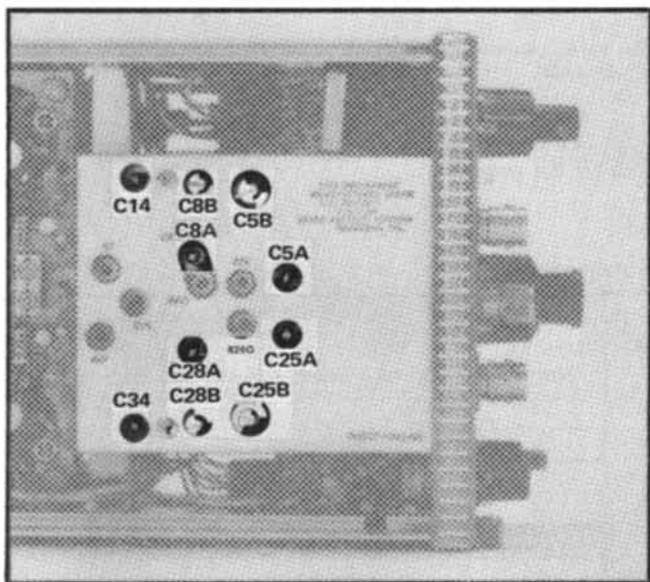
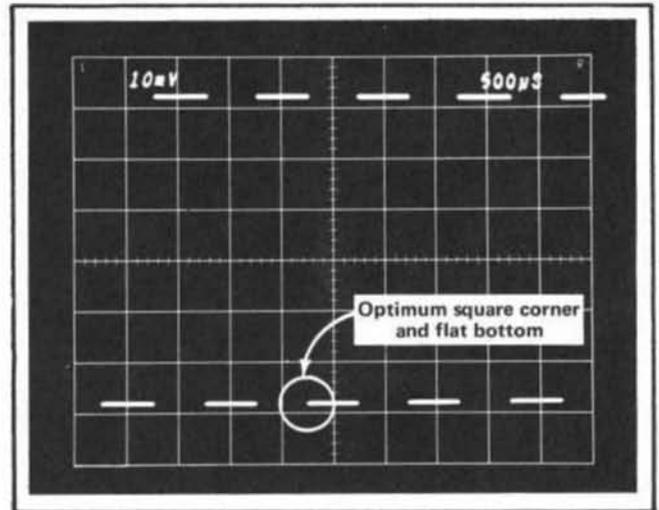

Fig. 5-18. Adjustment locations used in the Attenuator Compensation Adjustments procedure.
Fig. 5-19. Checking for optimum —INPUT waveform at sweep rate of .5 ms/div.
Figs. 5-17B through 5-17E are some waveform examples obtained when the adjustments were misadjusted. Fig. 5-18 shows the location of the adjustments.
- h. CHECK—The waveform should have a flat bottom as illustrated in Fig. 5-19. Aberrations should not exceed $\pm 1\%$ or ± 0.06 division for a 6 division peak-to-peak display.
- i. ADJUST—The —INPUT shunt capacitance C34 and the attenuator adjustments listed in Table 5-5 for a square lower front corner and flat bottom (see Fig. 5-19). The procedure used here is similar to the procedure used in performing step 18. Fig. 5-18 shows the locations of the adjustments.